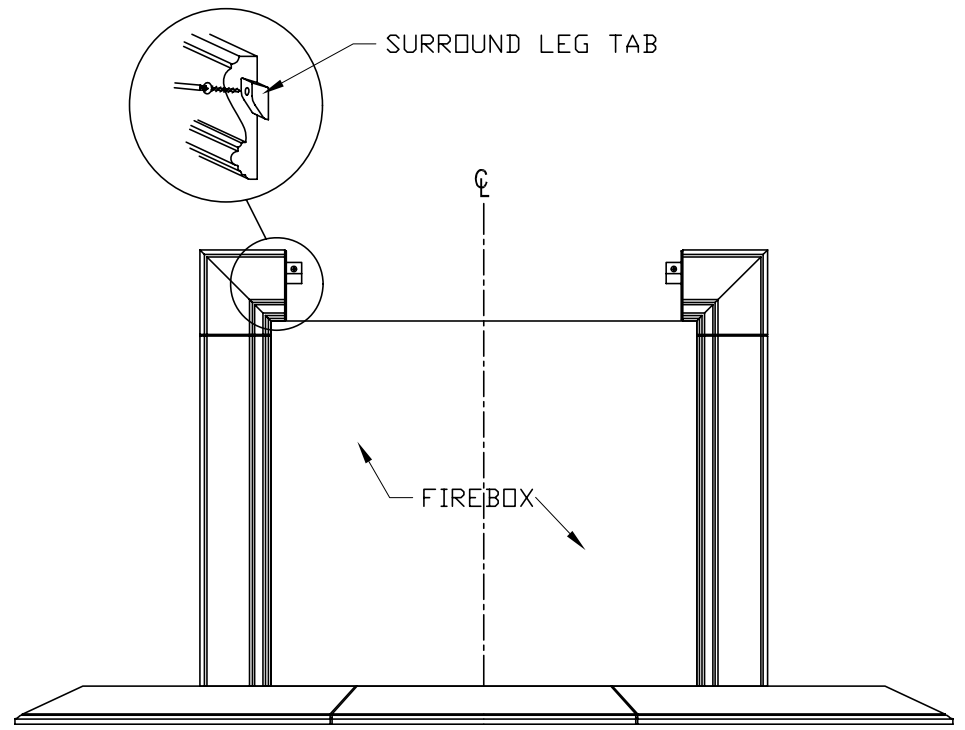

Fig. 1-2
- (b) Pre-drill & countersink at predetermined screw location (Fig 1-2). Apply generous/continuous bead of construction adhesive to back of surround, position back to set location and screw tight to wall.